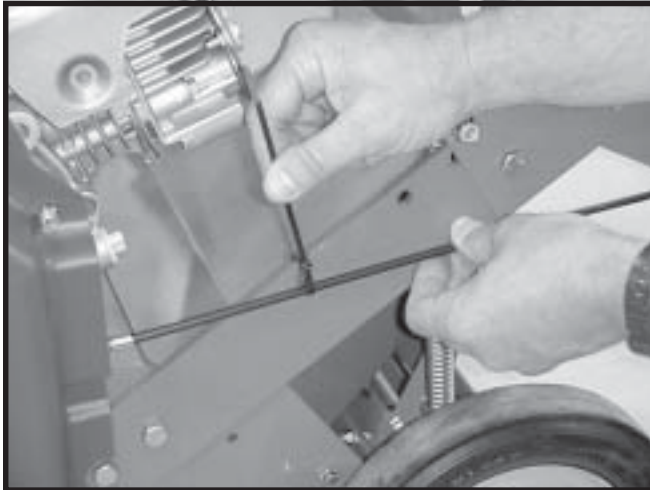

FIGURE 10
22. Wire tie the cable to the handle. See Figure 10.